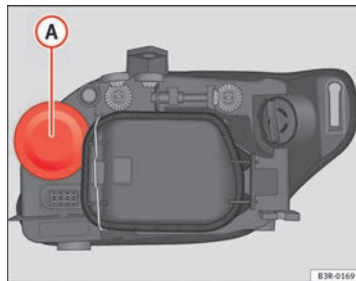

Fig. 194 Main beam headlights
- Pull up on the rubber cover **A** ⇒ Fig. 194 to remove it.